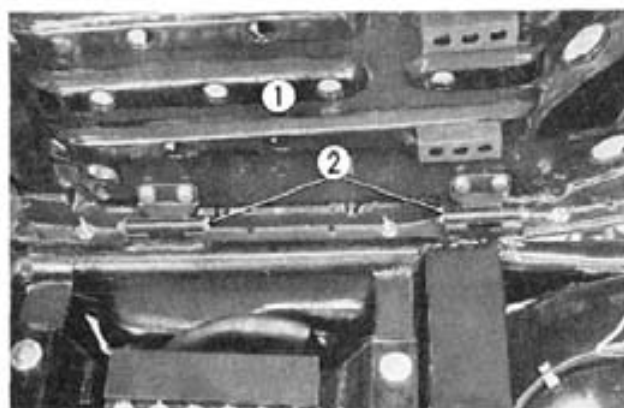

Fig. 15-3 ① Seat ② Seat hinge bars
8. Remove the two seat hinge bars and remove the seat from the frame. (Fig. 15-3)